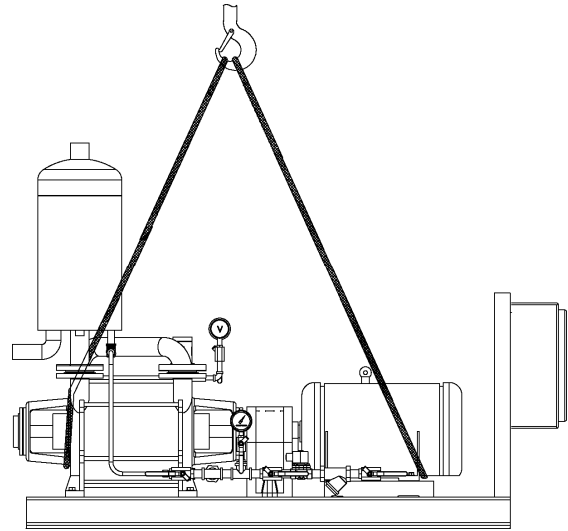

Figure 2
**2.1.4** Lift equipment as indicated in figures 2 & 3 maintaining horizontal position using suitable tools. Refer to shipping documents for actual shipping weights.